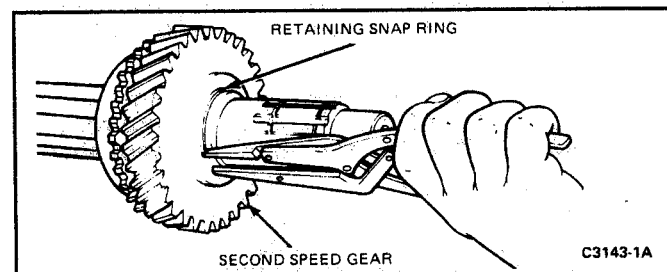

FIG. 16 Removing Second Speed Gear Retaining Snap Ring
6. Remove the snap ring from behind the second speed gear and remove the gear and thrust washer from the output shaft (Fig. 16).